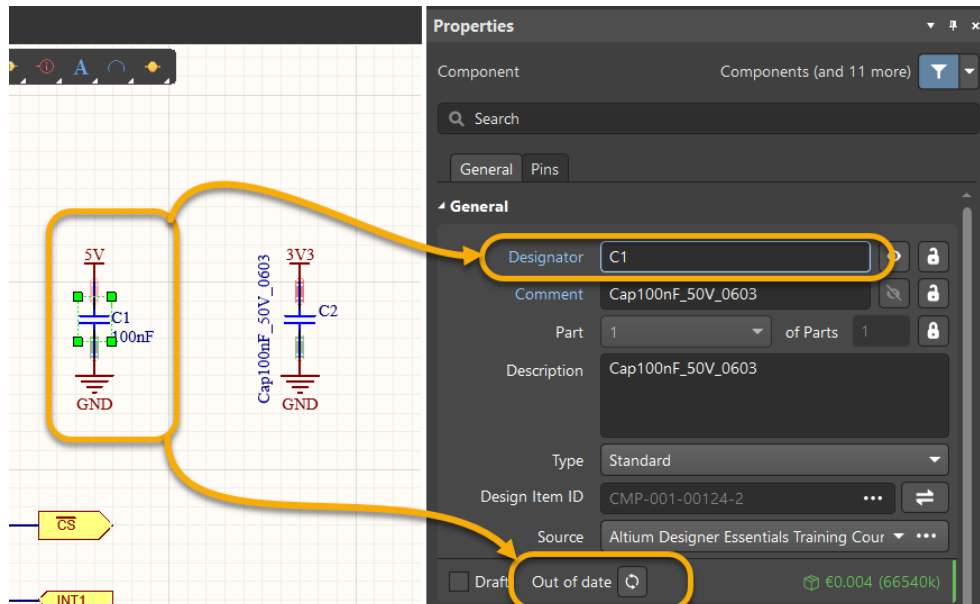

Figure 5. Component is Out of Date
26. Select C1 and check the status information at the *Properties* panel, the component status shows it is *Out of date* and does not match the component in the library, Figure 5.